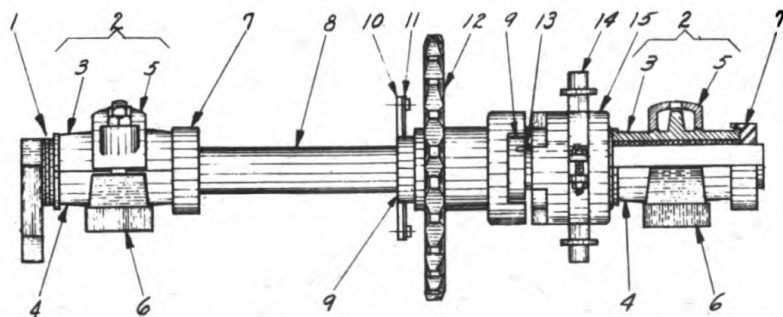

FIGURE 118
1. Loosen set screws in collar (7), Fig. 118, remove collar.
2. Bearing (2), is loose on shaft.
3. Jaw clutch (15), is loose on shaft, remove clutch and key.
4. Loosen set screws in collar (9), remove collar.
5. Sprocket (12), is loose on shaft.
6. Loosen set screws in collar (9), remove collar.
8. Loosen set screws in collar (7), remove collar.
9. Bearing (2), is loose on shaft.
10. Washers (1) are loose on shaft.